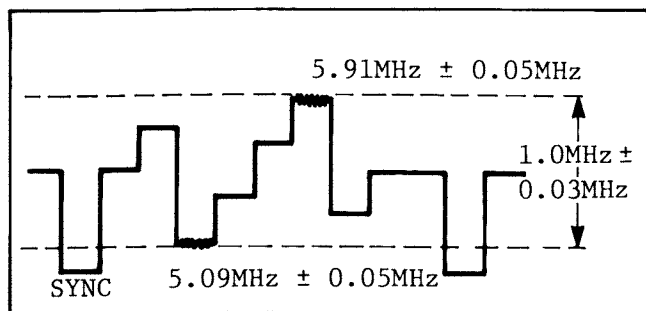

Fig. 2-5-15. I DEVIATION
1. Remove the screw (A), then remove C.B.A. VIDEO PROCESS. Connect extension cable SERVO SYSTEM CONTROL between VIDEO PROCESS and connect in the unit.
7. Adjust VC2 (I FREQ) and VR2 (I DEV) so that the frequency of the minimum I level is $5.09\text{MHz} \pm 0.05\text{MHz}$ and the frequency of the maximum I level is $5.91\text{MHz} \pm 0.05\text{MHz}$, and the deviation is $1.0\text{MHz} \pm 0.03\text{MHz}$, as shown in Fig. 2-5-15.